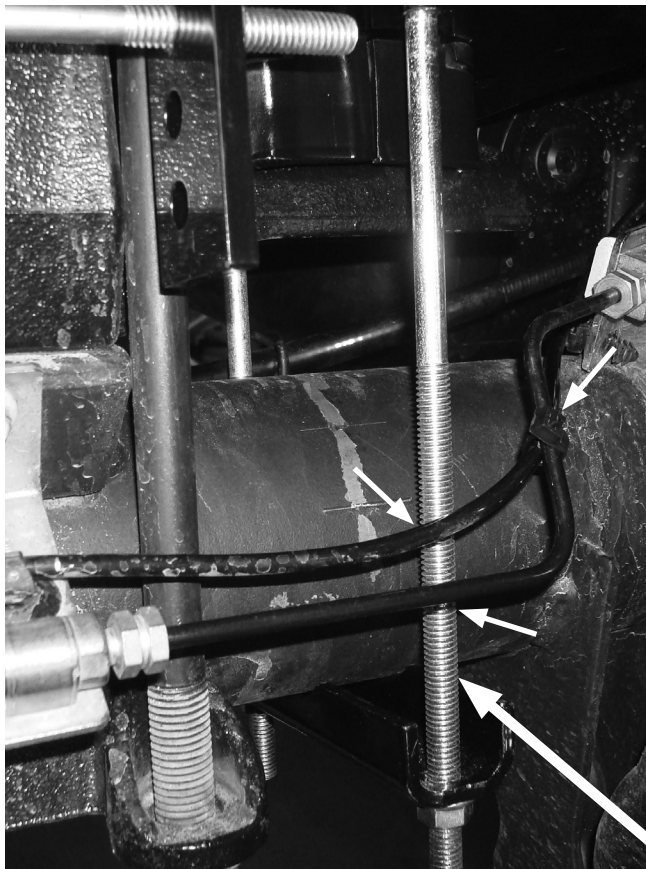

Fig. 22
On the driver's (left) side, the long carriage bolt in the lower bracket main plate should be located between the hard brake line and axle (Fig. 22). On the passenger's (right) side, the carriage bolt should be located on the backside of the brake line (Fig. 23).
8. Once the lower brackets are secured, make sure that the brake and ABS lines are not rubbing against the lower bracket carriage bolt. It may be necessary to pull or push the hard brake line away and tie off the ABS line to gain clearance. Note: on the passenger's (right) side, it may be necessary to pull the ABS tree mount out of the top of the bracket. Re-attach by installing the tree mount to the back hole on the bracket and tie off with a zip tie if necessary (Figs. 22 & 23).
PUSH THE HARD BRAKE LINE AWAY FROM THE LOWER BRACKET CARRIAGE BOLT IF THE LINE IS RESTING ON IT (FIG. 22 & FIG. 23).